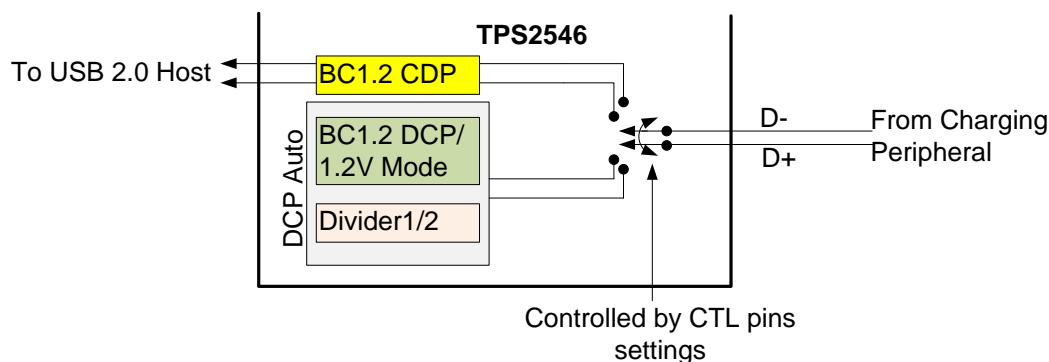

**Figure 28. DCP 1.2V Charging Scheme**
1.2V charging scheme is used by some handheld devices to enable fast charging at 2.0A. TPS2544 supports this scheme in the DCP-Auto mode before the device enters BC1.2 shorted mode. To simulate this charging scheme D+/D- lines are shorted and pulled-up to 1.2V for fixed duration then device moves to DCP shorted mode as defined in BC1.2 spec. This is shown in Figure 28